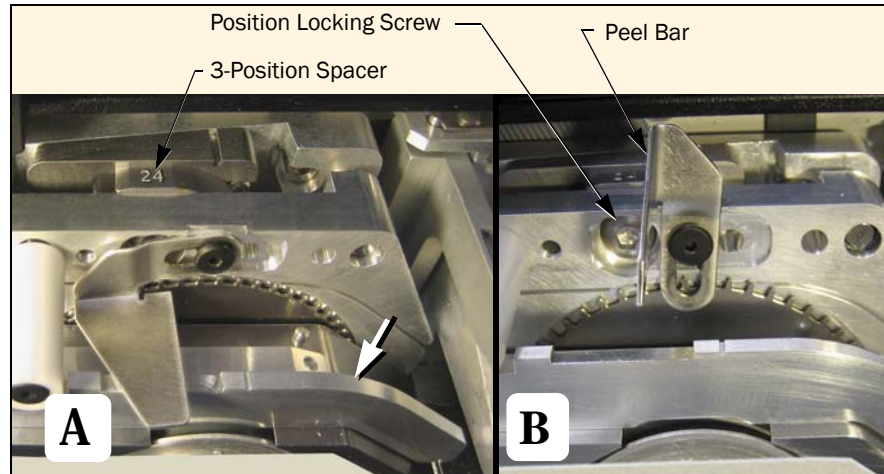

Figure 3-11—The Peel Bar on the GTP T-I Module is down [A] and up [B]. The Front Track (arrow) is also adjustable.
1. Loosen the Peel Bar Screw, and rotate the Peel Bar 90° out of the way. Then retighten the screw. See Figure 3-11 below.
2. Loosen the Position Locking Screw (Figure 3-11) using a 4 mm Hex Key most of the way out. Pull the assembly away from the spacer except when the spacer reads 16. Rotate the 3-Position Spacer with your finger until you read 16, 24 or 32, corresponding to your device tape width. Retighten the screw.
3. Lift up and move the magnetic Front Track to the position that fits your tape width. Refer to Figure 3-11.